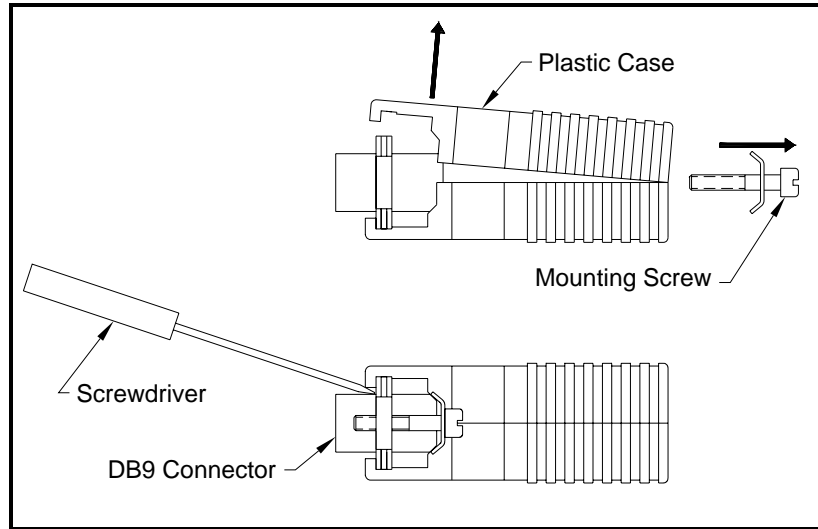

Figure 6-2: Opening the Converter Case
5. Use a small screwdriver to pry open the *plastic case* of the serial interface converter, as shown in Figure 6-2 on page 6-8.